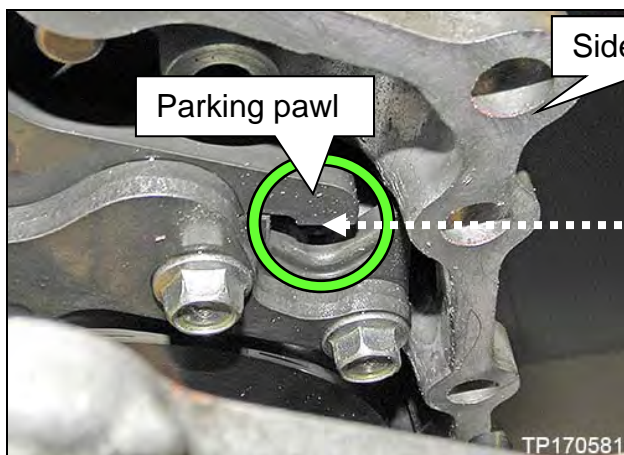
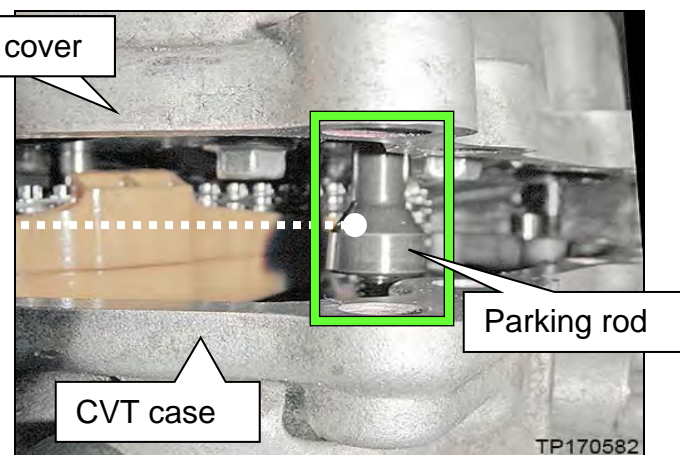

Figure 25E
Figure 26E
- Use a magnet, or similar tool, to align the park rod in the CVT case ( in Figure 26E) with the opening in the parking pawl ( in Figure 25E) in the side cover.